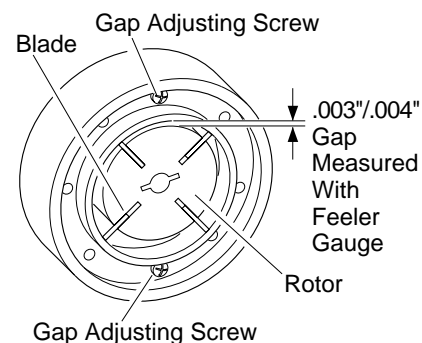

Figure 22 - Gap Adjusting Screw Locations
9. Check gap on rotor. Adjust to .003"/.004" if needed (see Figure 22). **Note:** Rotate rotor one full turn to insure the gap is .003"/.004" at tightest position. Adjust if needed.